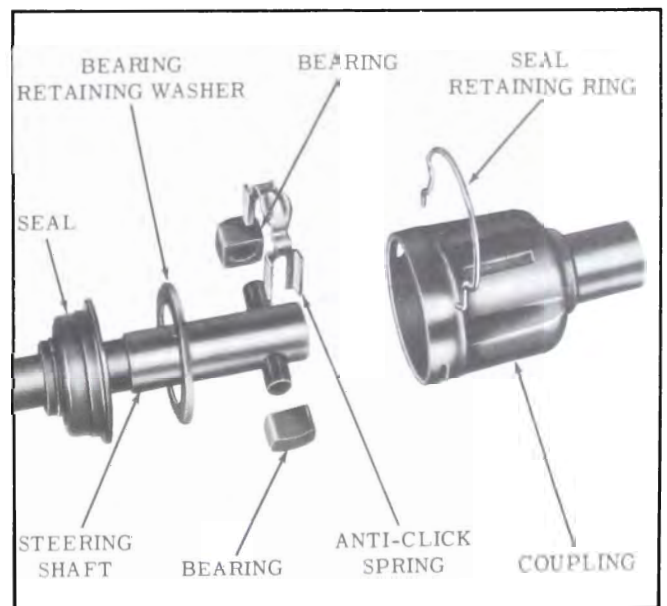

Figure 8-22—Steering Shaft Coupling Assembly
6. Remove coupling seal retainer. See Figure 8-22.